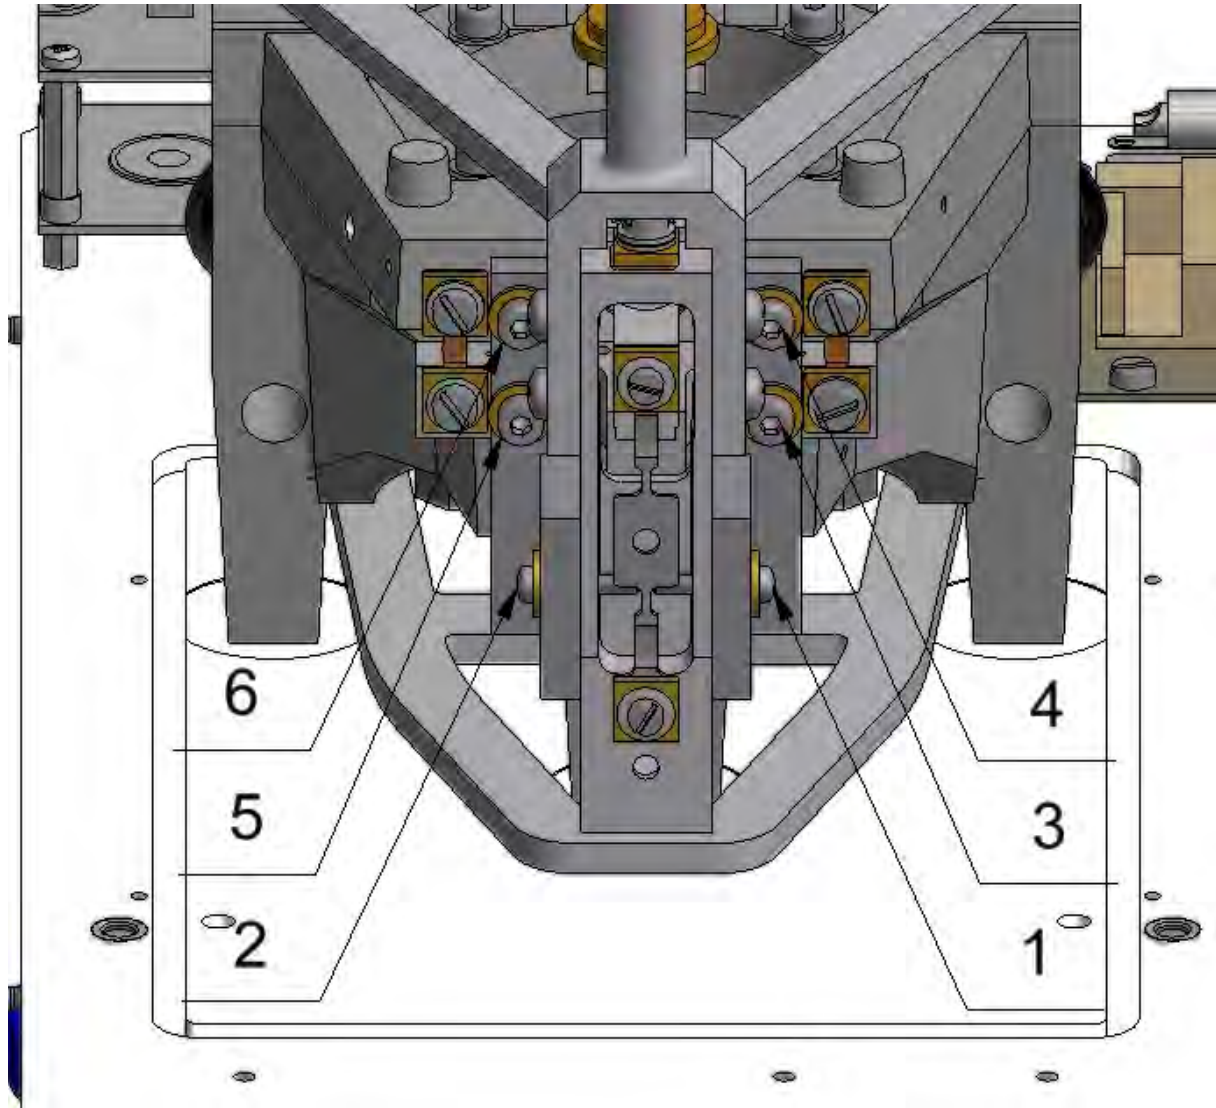

Fig.3
While unlocking the lever, keep undoing screws in an order presented in figure 3.
- a. Using M4x10 screw (12) fix weighing pan (13) to mandrel (14), thus set assembly place on a vertical rocker extension (15). (Fig. 3).